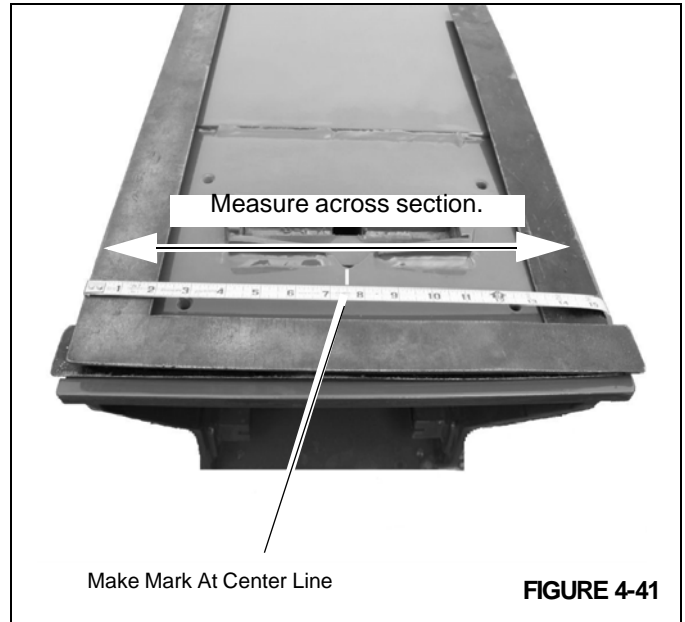

FIGURE 4-41
- b. Using the measurement obtained determine the center point of the boom section and clearly mark it (Figure 4-41).